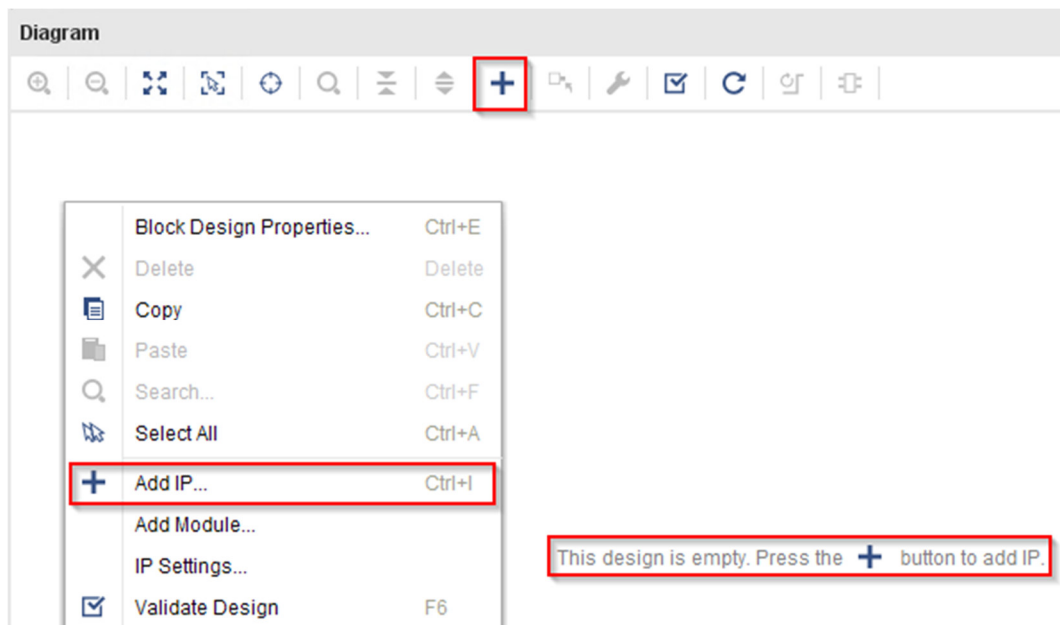

**Figure 6: Invoking IP Integrator to create a Block Design**
7. Now create schematic in the form of **Block Design**. In the **Flow Navigator** window, click on **Create Block Design** under the **IP Integrator** block as shown in Figure 6 below.